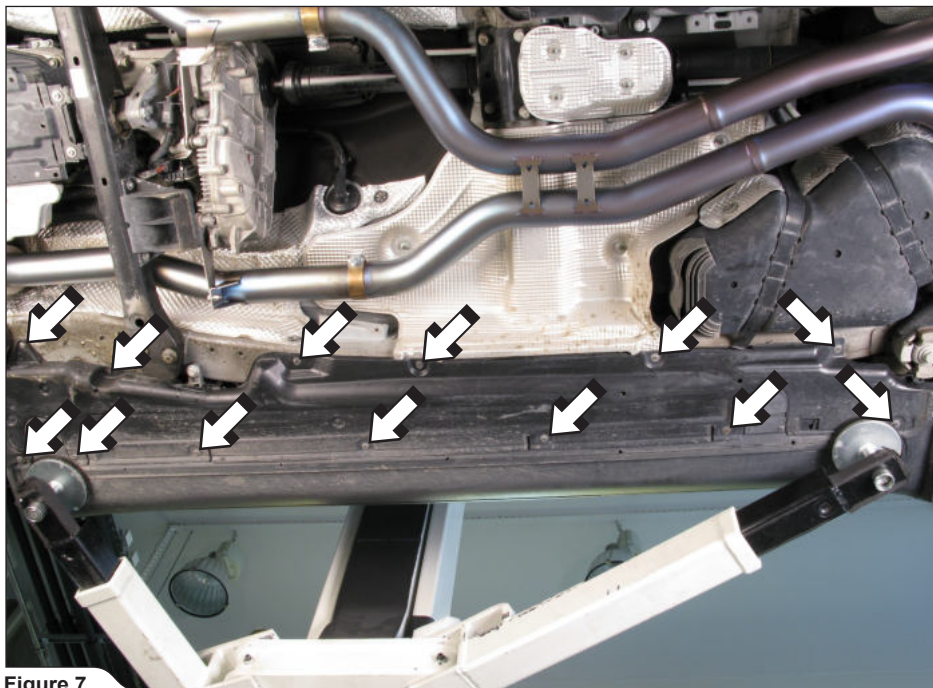

Figure 7
7. Unscrew the marked bolts and remove the right side underbody shield off the vehicle (**Figure 7**).